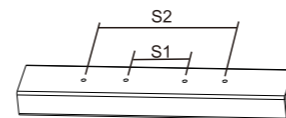

Figure 3
2. Drill two holes of distance S1 or S2 on the mounting bar (Figure 3)